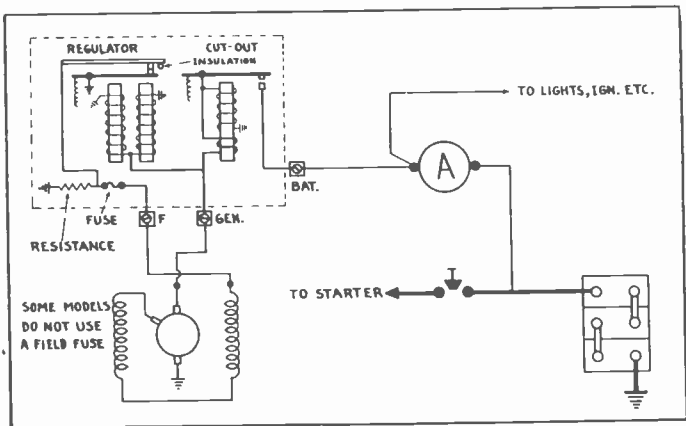

Fig. 7. Circuit and connections for a two-rate or step-down charging control.
This type of control is generally built on the same base and housed in the same casing as the generator cut out. The control consists of one or two potential coils which are connected across the brushes of the generator, (Fig. 7) a moving contact, a stationary contact, a field resistance, and in some cases, a field fuse. The contacts and the resistance are connected in parallel with each other, between the field terminal and ground, and the fuse will be in series with both the resistance and the contacts.
7. Copy Fig. 7 and trace the circuit through which the field current would flow when the generator is charging at the high rate.